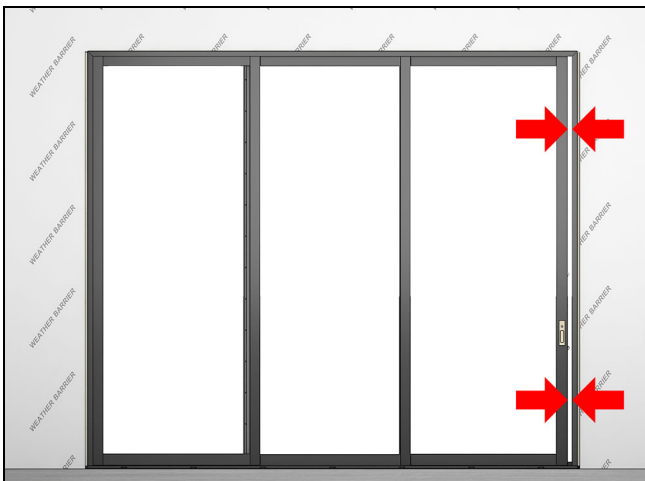

Figure 192
6. Recheck for an even reveal and repeat the previous steps if necessary. See Figure 192.